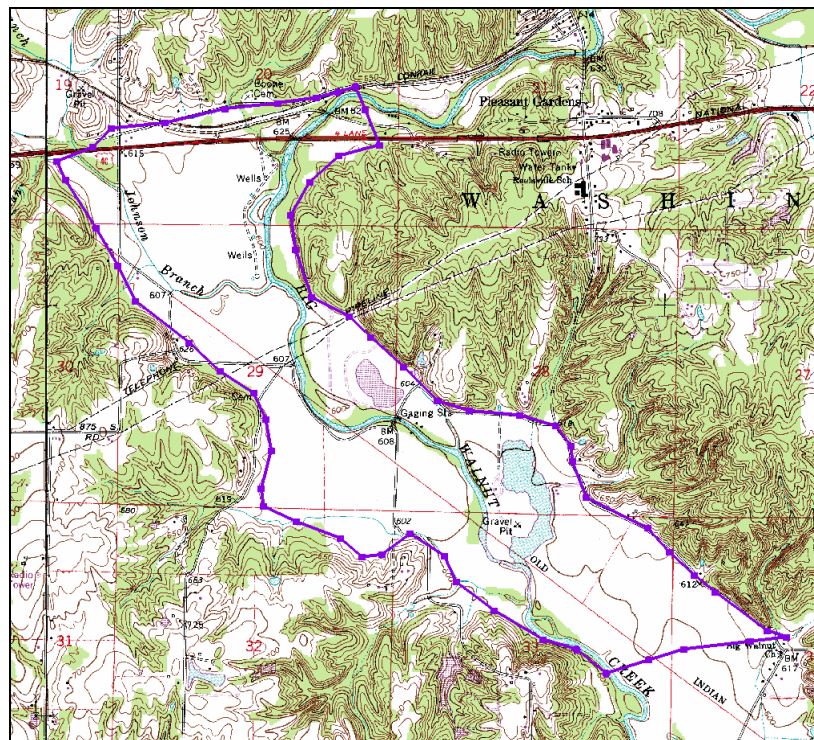

Figure 3-7 Boundary Arcs
7. Zoom in around the model area by dragging a box that encloses the area shown in Figure 3-7 below.
9. Click out the boundary as shown in Figure 3-7 below.